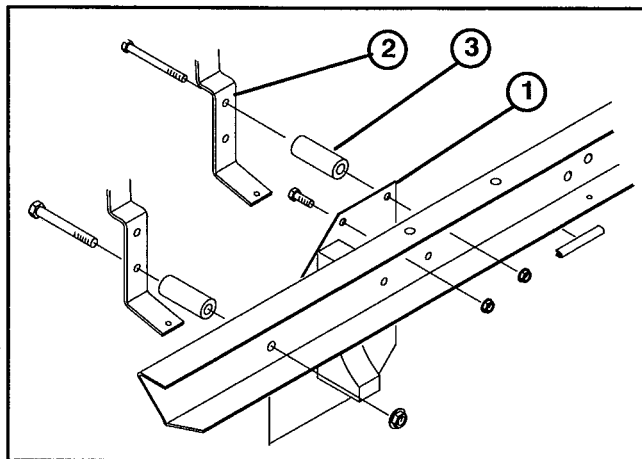

Figure 16
60. Place generator shield and baffle assembly against right hand frame channel, aligning rear holes in baffle with rear fuel tank mounting holes. Using front holes in baffle and frame secure together with (2) 3/8-16 x 3/4" lg. capscrews and flange nuts (Fig. 16).
66. Install frame trim to vehicle frame, centered on the fuel line, to prevent fuel line from rubbing on frame (Fig. 16).
67. Secure rear fuel tank support to shield and frame with (2) 3/8-16 x 4" lg. capscrews, spacers and nuts (Fig. 16).
68. Secure front fuel tank support to frame with (2) 1/2-13 x 4.5" lg. capscrews, spacers and nuts (Fig. 16).